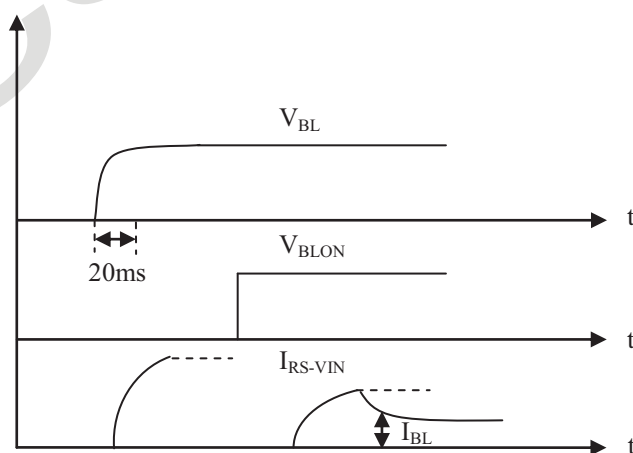

Fig. 3.4 The timing sequence diagram of inrush current measurement
- (1) Dimming ratio = 100% (Max.) ($T_A = 25 \pm 5 \text{ }^\circ\text{C}$, Turn on for 45minutes).
- (2) The measurement condition: V_{BL} rising time is 20 ms. (V_{BL} from 10% ~ 90%), the sequence diagram is shown as Fig.3.4.
- (3) Less than 5% dimming control is functional well and no backlight happens to shut down.
- (4) Normal: 0 ~ 0.8V; Abnormal: Open collector.